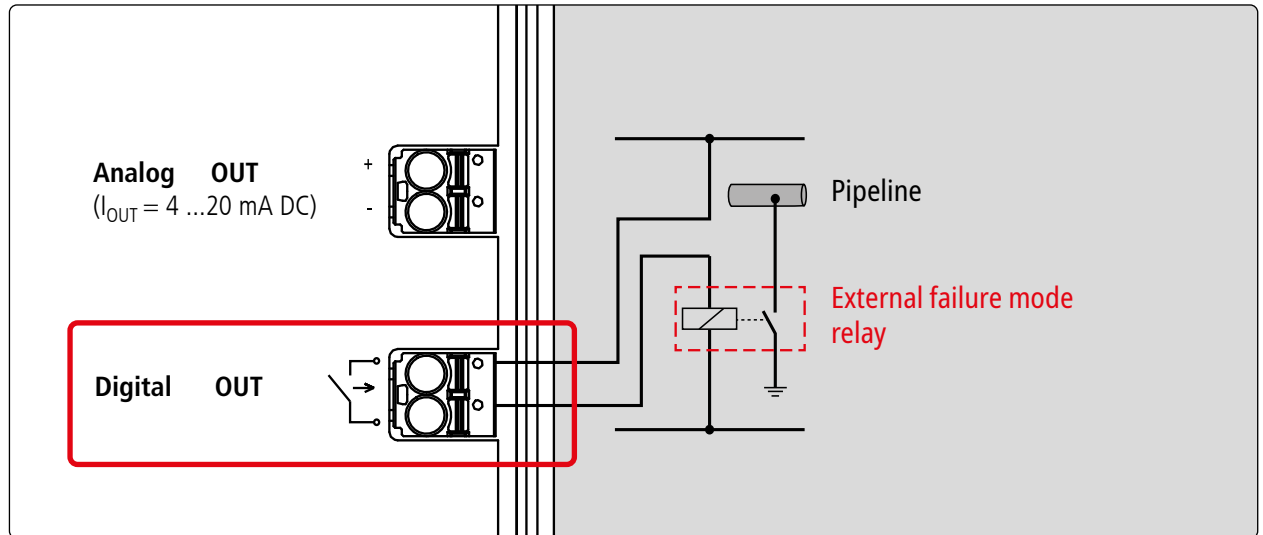

Figure 15 Failure mode relay
- ➔ Apply the external supply voltage (9 to 32 V DC), (see Fig. 15)